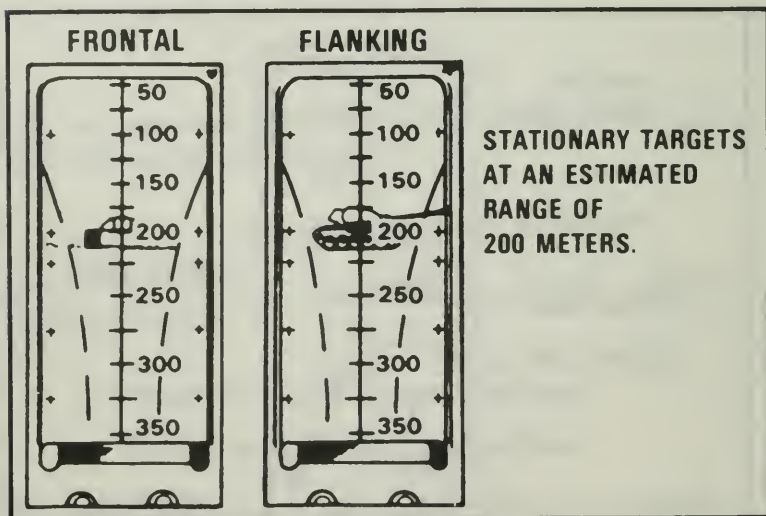

Figure 172. Center of the target mass.
(1) Locating the range mark on the vertical range line corresponding to the estimated range.
(2) Placing that point on the center of target mass (Figure 172).
(3) Firing and adjusting, if necessary.